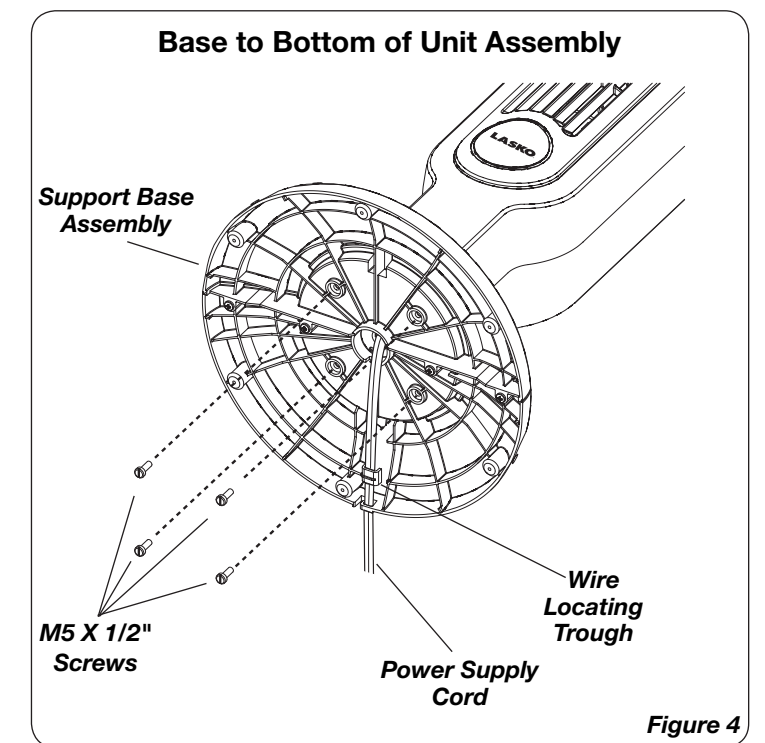

Figure 4
- Secure the **Support Base Assembly** to the bottom of the Fan with (4) 1/2" Long M5 Screws. Gently pull any excess slack of the **Power Supply Cord** and place it in the **Wire Locating Trough**. (**Figure 4**)